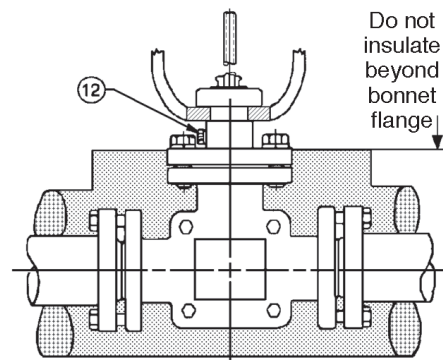

Figure 2: Body Insulation
7. Insulation may be applied as indicated in Figure 2. Drainage from the packing area must be ensured when fully installed, sealed and lagged for outdoors installation. Vented pipe plug (12) should not be covered.